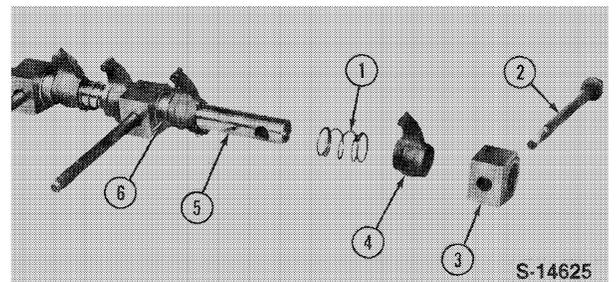

Figure 11
- Remove the cylinder head bolts which pass through the rocker shaft supports and slide the rocker shaft components from the shaft, Figure 11.